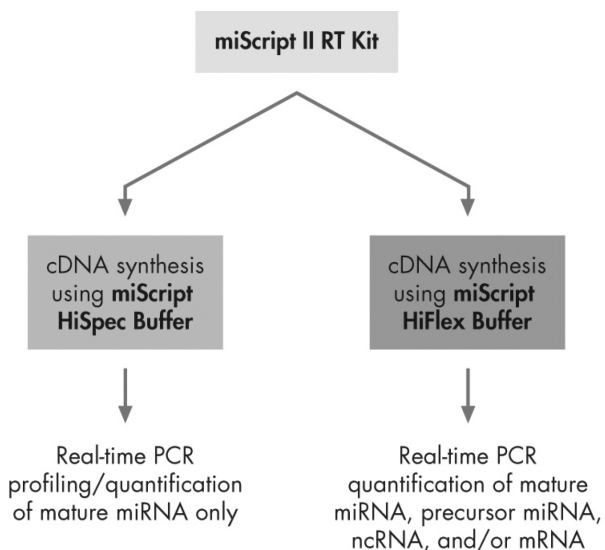

Figure 1. Mature miRNA, precursor miRNA, other noncoding RNA, and mRNA detection.
The expanded miScript II RT Kit includes miScript Reverse Transcriptase Mix, 10x miScript Nucleics Mix, 5x miScript HiSpec Buffer, and 5x miScript HiFlex Buffer. miScript Reverse Transcriptase Mix is an optimized blend of poly(A) polymerase and reverse transcriptase. 10x miScript Nucleics Mix contains dNTPs, rATP, oligo-dT primers, and an internal synthetic RNA control (miRNA reverse transcription control [miRTC]) that is used to assess reverse transcription performance during profiling experiments with miScript miRNA PCR Arrays. Two buffers, 5x miScript HiSpec Buffer and 5x miScript HiFlex Buffer, are provided in the miScript II RT Kit to meet the distinctive needs of miRNA quantification studies using real-time PCR (Figure 1). The unique, patent-pending formulation of 5x miScript HiSpec Buffer facilitates the selective conversion of mature miRNAs into cDNA, which can then be used for miRNA quantification with either miScript miRNA PCR Arrays or miScript Primer Assays. Using miScript HiSpec Buffer, the conversion of long RNAs, such as mRNAs, is suppressed. As a result, background signals potentially contributed by long RNAs are nonexistent, making a reverse-transcription reaction buffered using miScript HiSpec Buffer highly suitable for profiling the expression of mature miRNAs. Only 5x miScript HiSpec Buffer should be used to prepare cDNA for real-time PCR with miScript miRNA PCR Arrays. For protocols using miScript Primer Assays, refer to the *miScript PCR System Handbook*. If working with samples that contain low amounts of RNA, 5x miScript HiSpec Buffer should also be used to prepare cDNA for preamplification with the miScript PreAMP PCR Kit. For protocols using the miScript PreAMP PCR Kit, refer to the *miScript PreAMP Handbook*.